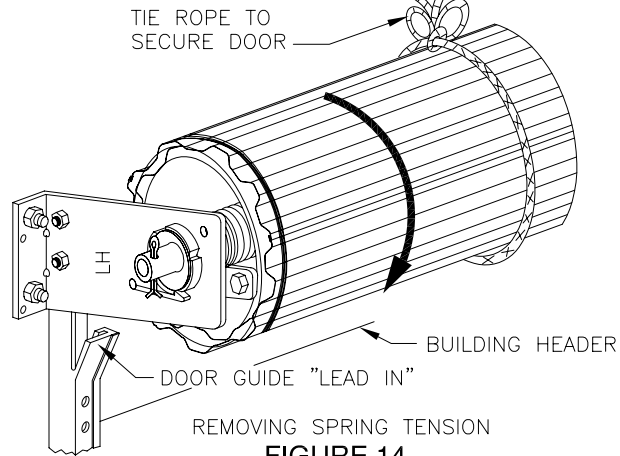

FIGURE 14
RAISE DOOR TO FULL OPEN POSITION. REMOVE HEAD STOPS WHILE HOLDING DOOR IN PLACE. SECURE DOOR IN FULL TOP POSITION. DO NOT LET GO OF DOOR. TIE ROPE TIGHTLY AROUND CURTAIN ROLL AS SHOWN IN FIGURE 14 ABOVE.
**STEP 17** IF DOOR DRAGS IN GUIDES: (A) CHECK DOOR MOUNTING BRACKETS FOR PLUMB. (B) ADJUST LOCATION OF GUIDES FOR 3/8" CLEARANCE FROM CURTAIN ROLL END TO INSIDE OF VERTICAL GUIDE RAIL, TOP AND BOTTOM. (C) CHECK GUIDES FOR FOREIGN MATTER, SUCH AS DIRT, ETC. (D) CHECK FOR DAMAGED GUIDES. (E) ADJUST LEAD-IN BEND AT TOP INSIDE OF GUIDES ("LEAD IN" SHOWN IN FIG. 14).
**STEP 18** IF DOOR DOES NOT CONTACT FLOOR LEVEL: (A) USE SPRIT LEVEL TO CHECK WHETHER DOOR OR FLOOR IS OUT OF LEVEL. (B) CONFIRM DOOR SUPPORT BRACKETS AND GUIDES ARE LEVEL. (C) ROLL DOOR ALL THE WAY UP AND CHECK IF CURTAIN ROLLS STRAIGHT ON DRUMS, END OF DOOR SHOULD BE SQUARE.